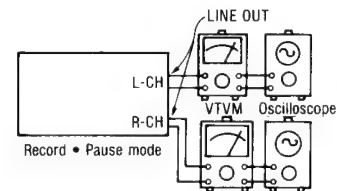

Fig. 21
1. Test equipment connection is shown in fig. 21.